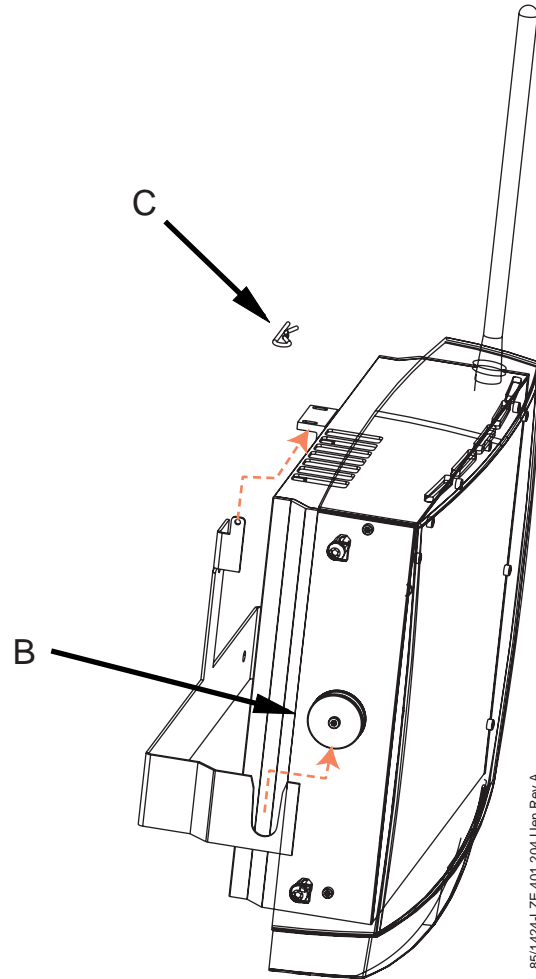

Figure 6 Mounting instruction.
- Lift the BRU1 (see *Figure 6*). Put the two hook-up plastic wheels (B) into the openings in the base plate and let the BRU1 slide down into position.